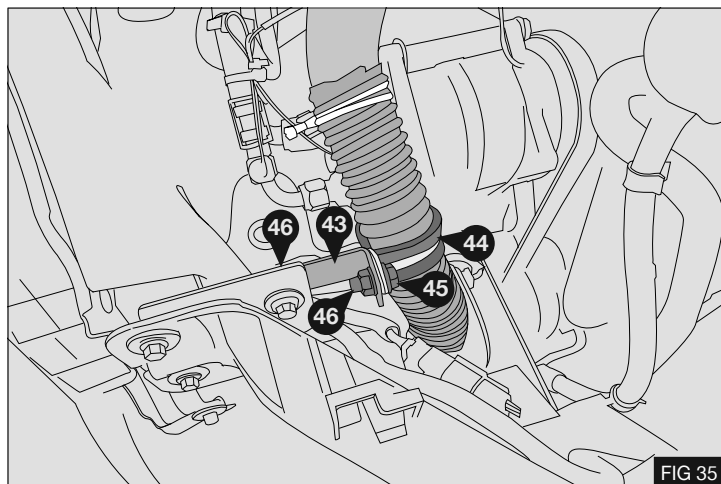

FIG 35
3. Fit the modified filler section (W) into its original support and reservoir. Fix support bracket (43) to the existing thread on the vehicle with 1x M8 flange nut (46). Secure the modified filler neck to the bracket (43) using P clip (44) with M8 x 25 Flange bolt (45) and Flange nut (46). - Fig 35